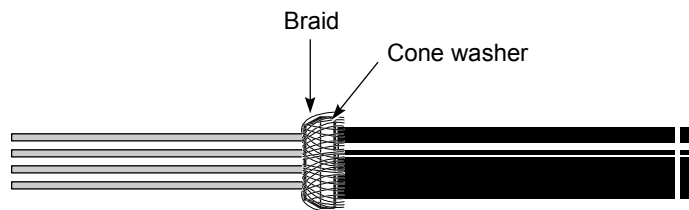

Figure 48 – Fitting the cone washer and trimming excess material
5. Fit the cone washer over the braided shielding until it reaches the cable jacket. The bevelled edge on the cone should face toward the exposed wires; see Figure 48.